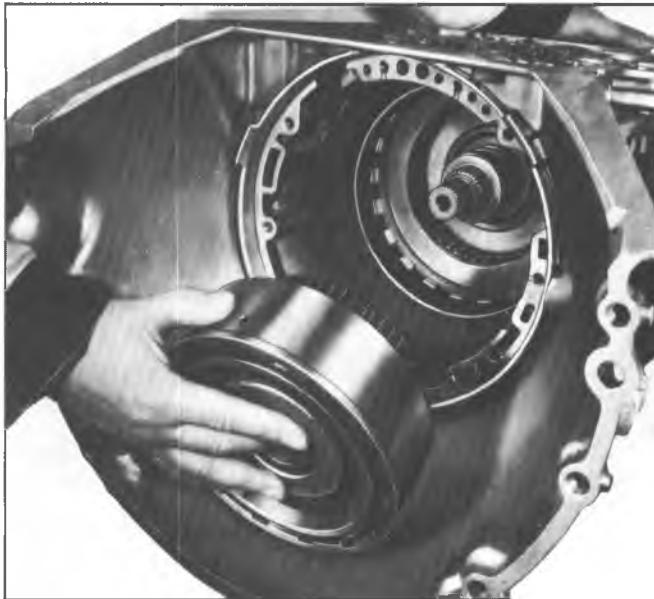

Fig. 7A-166C--Installing Direct Clutch Assembly
17. With converter end of transmission up, carefully install direct clutch and intermediate roller assembly. It will be necessary to shake and slightly twist housing to allow roller outer race to index with composition plates. Housing hub will bottom on sun gear shaft (Fig. 7A-166C).